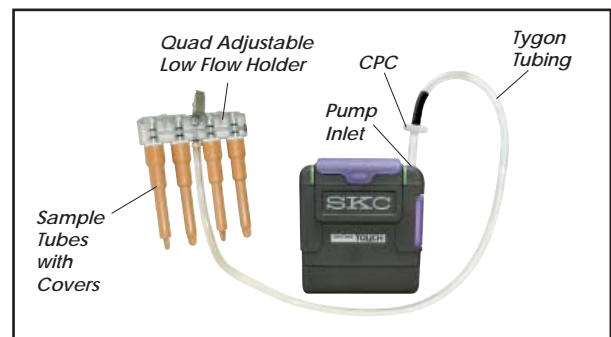

Figure 1. Multiple-tube sampling train with AirChek TOUCH
2. Setting Up the Calibration Train with Adjustable Multiple-tube Low Flow Holder — Figure 1